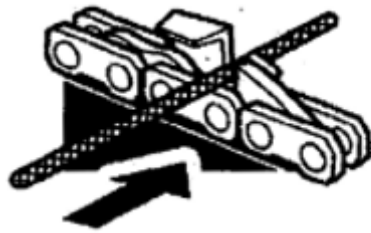

Fig.24
3. Hold the lever of the file with the top of the tooth. See Figure 24.